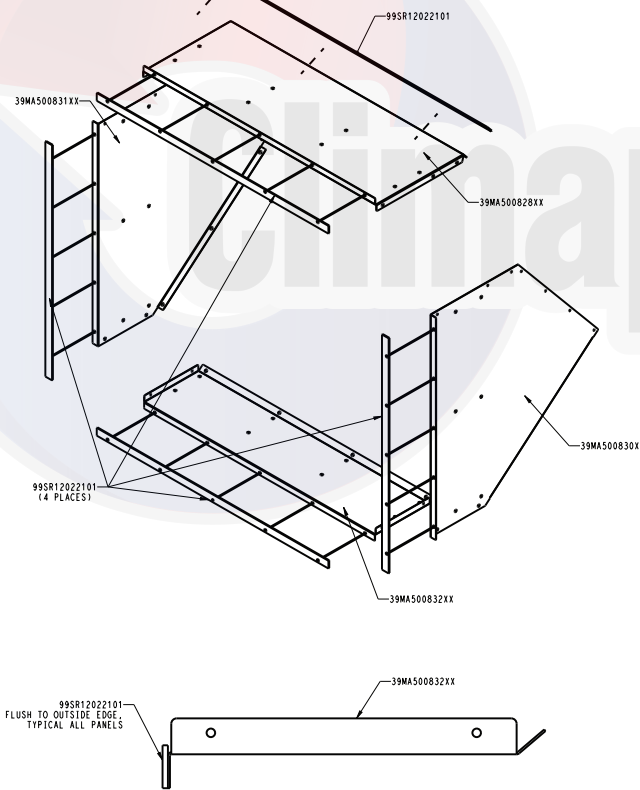

Fig. 68 — Installing the Gasket
5. Install gasket flush to each panel flange (top, bottom and sides) as shown below. See Fig. 68.